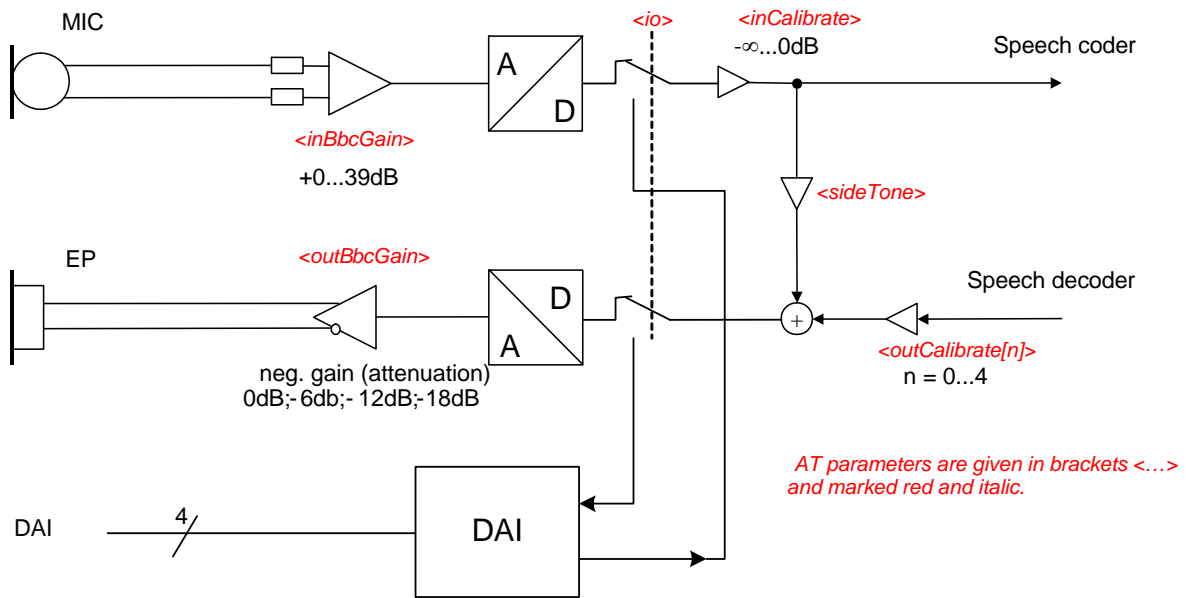

Figure 47: Audio programming model
3. The gain in this case specifies the typical, overall sidetone gain measured from MICP/MICN to EPP/EPN in the specific audio mode at 1000Hz (cp. Figure 47).